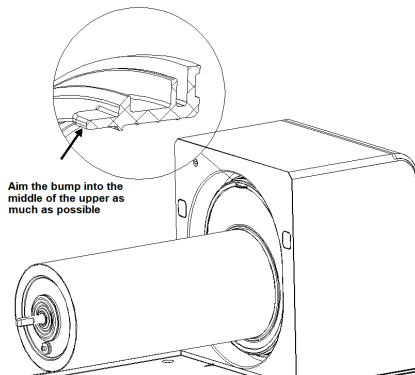

Fig.16
4. Install the sealing ring of the refrigeration barrel onto the rear seat, taking note that the larger diameter side is against the rear wall, and the protruding position should be aligned with the upper middle as much as possible (as shown in Figure 16).